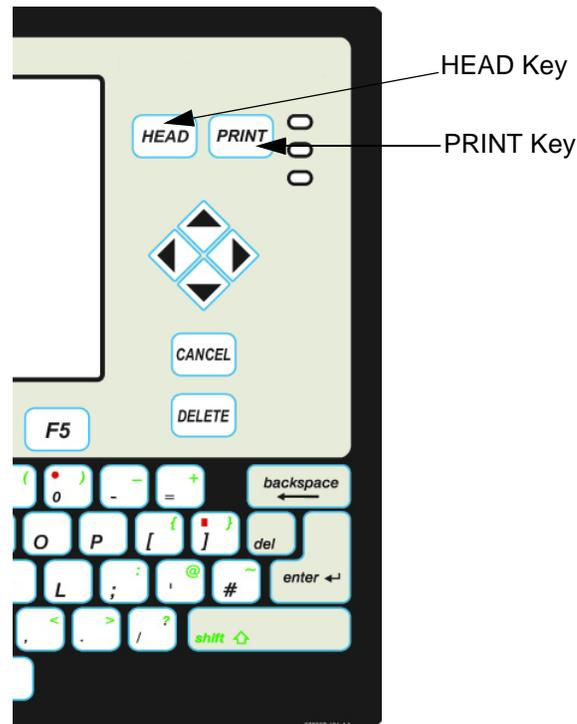

Figure 4-2: Location of PRINT Keys
- 2 Press the HEAD key on the keyboard to begin the startup sequence of the printhead. Refer to Figure 4-2 on page 4-4 for the location of the HEAD key.
- 1 Press the HEAD key (refer to Figure 4-2 on page 4-4) to turn off the printhead and allow the printer to complete the three and a half minute shutdown sequence.